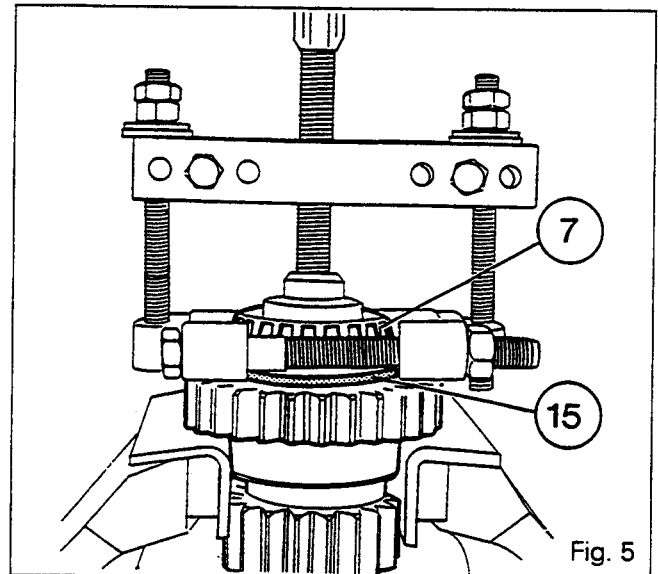

Fig. 5
28. Extract the bearing cone (7) and the deflector (15) (Fig. 5), then remove the bearing cone (4).
- Note : To extract the cup (3) it is necessary to remove the 540/1000 rpm pinions. Partly drain the rear axle housing. See section 7 B01.**